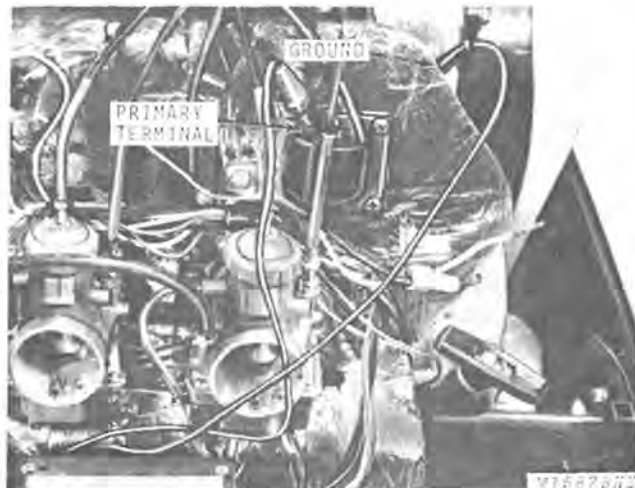

Fig. 5-Testing Coils
2. Connect one ohmmeter lead to the ground connection of the coil. Connect the other ohmmeter lead to the primary terminal of the coil, Fig. 5. The ohmmeter should indicate from 0.1 to 0.5 ohms.